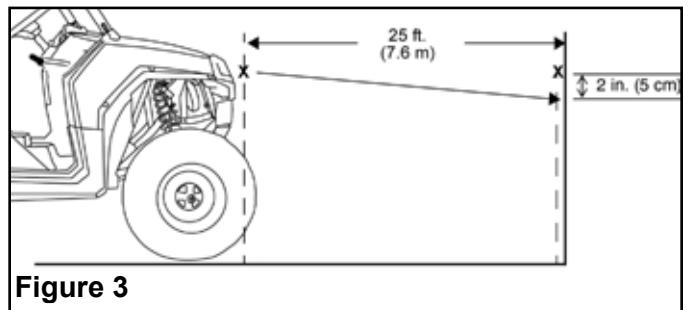

Figure 3
1. Position the vehicle on a level surface. The headlight should be approximately 25 ft. (7.6 m) from a wall. Figure 3.